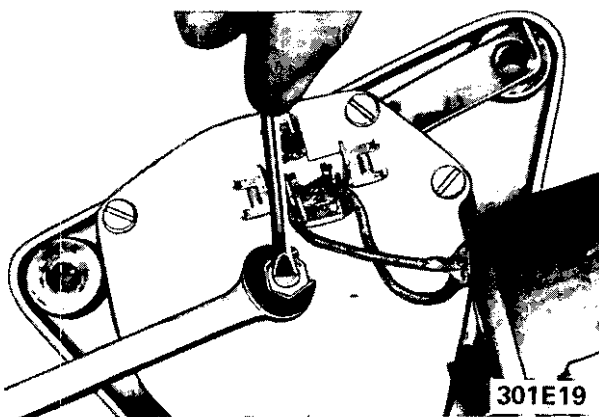

Figure 1E-19 Adjusting Driven Gear End Play
10. Connect assembled motor with an ammeter and adjust end play of armature shaft and drive gear. To do so, turn in the respective adjusting screw until the current consumption increases. Then back off adjusting screw 1/2 turn. Secure driven gear adjusting screw with lock nut and armature adjusting screw with paint. See Figures 1E-18 and 1E-19.
4. Check the position of the windshield wiper blades for proper position after the crank arm is attached. See Figure 1E-3 for the proper distance the blades should be from the windshield molding in the park position.